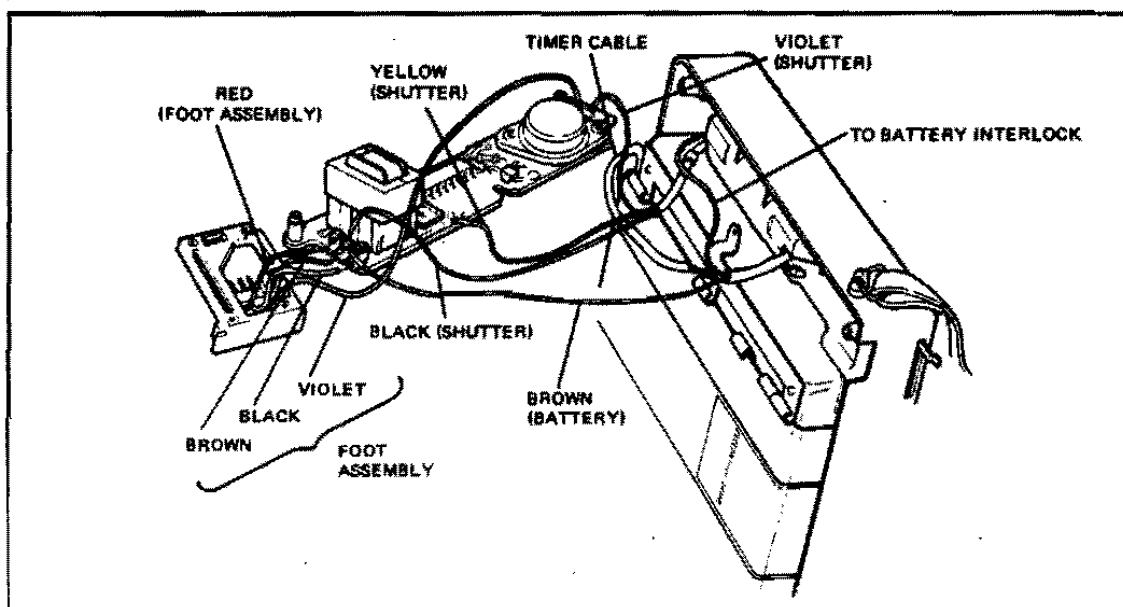

FIG. 4-17 UNSOLDERING CONVERTER LEADS
- d. Free the timer cable (Figure 4-17) from the converter circuit board by cutting away a corner of the board using a pair of heavy-duty cutters.
- a. Assemble the foot assembly to the new converter circuit board by resoldering the violet, brown, black and red leads to the converter circuit board (Figure 4-17).